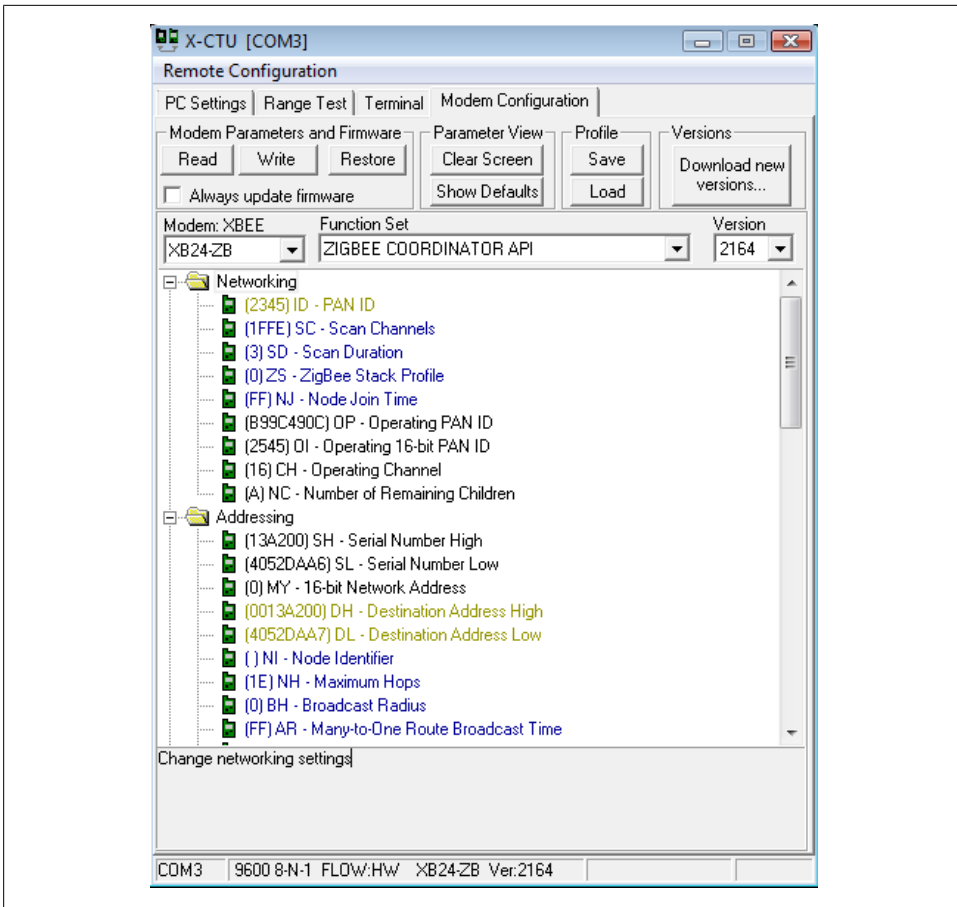

Figure 4-4. Setting ID, DH, and DL in X-CTU
3. Use X-CTU (Figure 4-4) to set ATDH to the high part of your *router* radio's address (always 0013A200 for XBees) and ATDL to the remainder of your *router* radio's address (the unique part of the number you noted above).